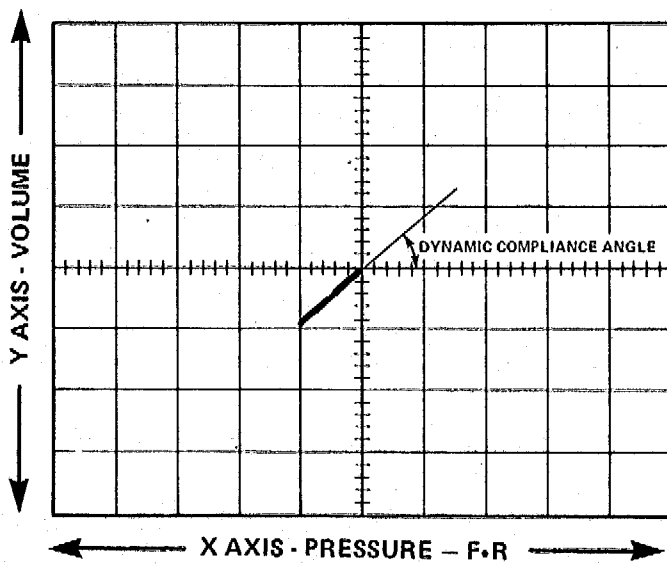

Figure 38 - Measurement of Dynamic Compliance Angle
- m. Refer to Figure 38. When a satisfactory test is completed, record the dynamic compliance angle for calculations using the graticule. Photograph the trace if desired. Since dynamic compliance is a function of frequency and lung volume, it is usual to note these as well as the peak flow rate.